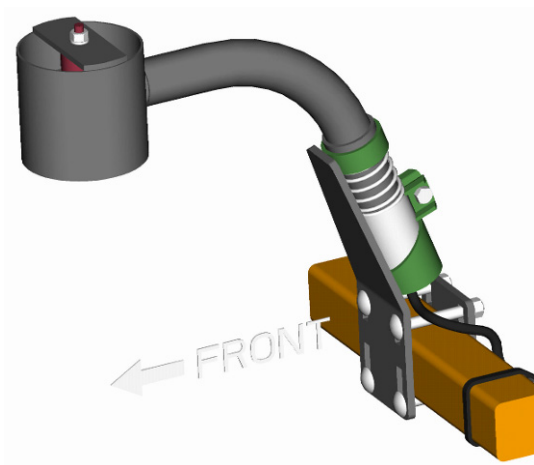
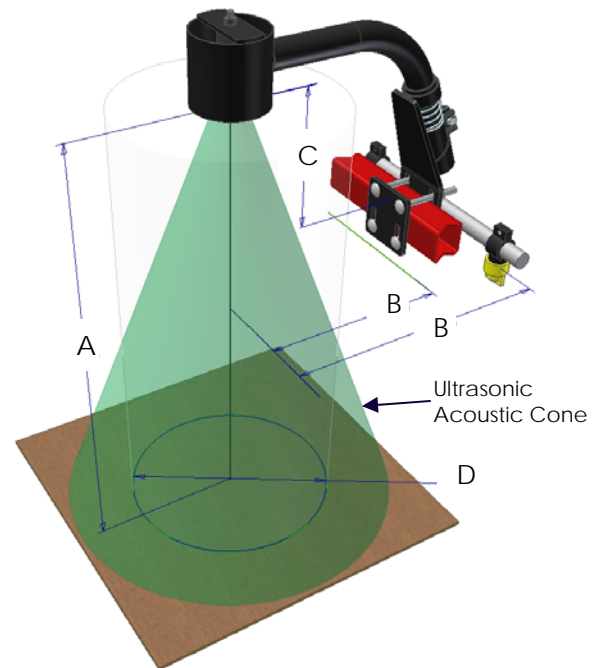

Figure 8: Another Acceptable Mounting
Figure 10: Sensor Mounting Guidelines
3. The sensor mounting brackets can be installed with the mounting base behind (**Figure 10**) or in front of the tube (**Figure 8**).
4. Mount the NORAC UC4+ ultrasonic sensor (**E02**) into the sensor brackets. The sensors should be oriented forward (ahead) of the boom (see **Figure 8** and **Figure 10**).
5. Sensor cables should run through the mounting bracket tube and then behind the member the bracket is mounted onto. Cable-tie the connector in place. The cable must not be allowed to hang below the boom (Figure 8).